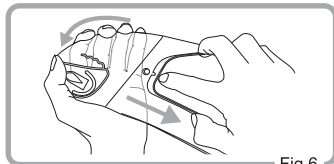

Fig.6
2. Remove the Pinlock® Original Insert Lens from the eccentric pins with flexing the shield. (Fig.6)